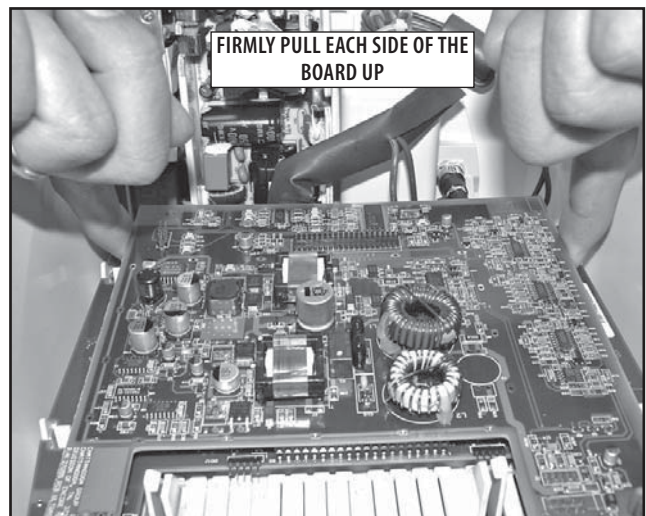

FIGURE 6.35
4. Firmly pull each side of the Ultrasound board up until the board is almost off of the Header Connector and is clear of the Stand Off Barbs. See Figure 6.35.